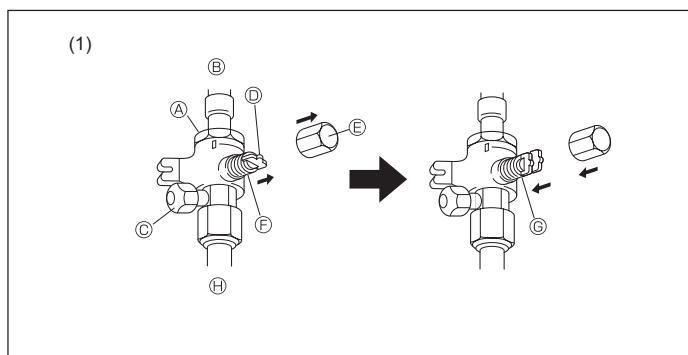
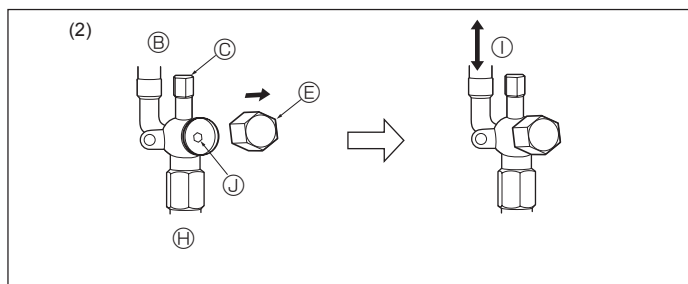

Fig. 5-8
Fig. 5-9
(1) Gas side (Fig. 5-8)
① Remove the cap, pull the handle toward you and rotate 1/4 turn in a counter-clockwise direction to open.
② Make sure that the stop valve is open completely, push in the handle and rotate the cap back to its original position.
(2) Liquid side (Fig. 5-9)
① Remove the cap and turn the valve rod counterclockwise as far as it will go with the use of a 4 mm [3/16"] hexagonal wrench. Stop turning when it hits the stopper.
② Make sure that the stop valve is open completely and rotate the cap back to its original position.